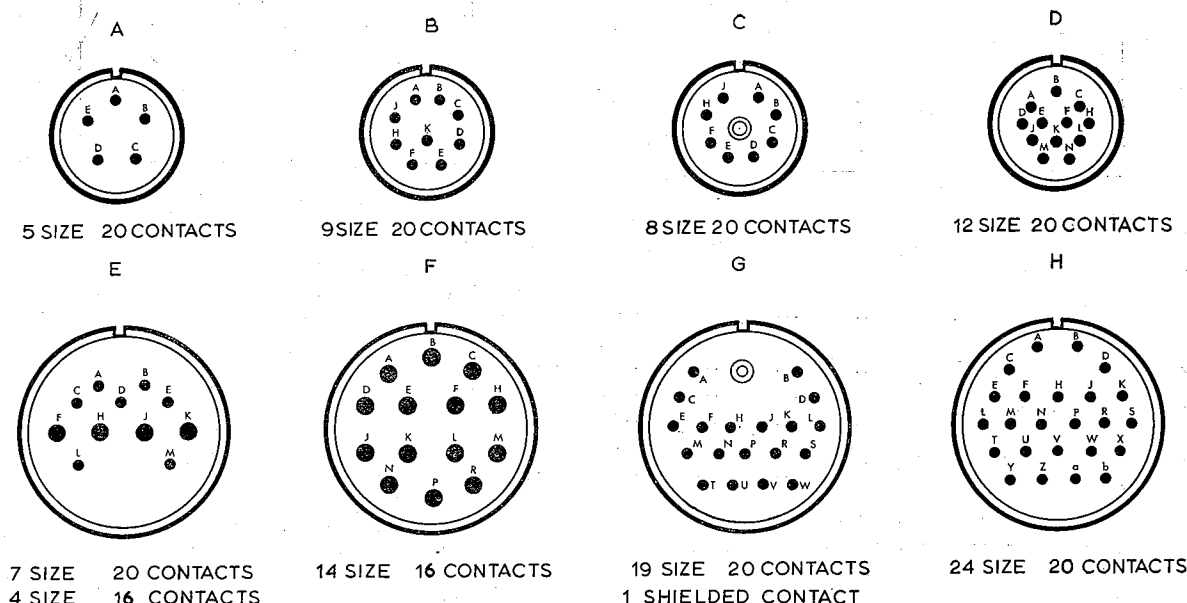

Fig. 2. Insert sizes and contact arrangements
9. The full range of contact arrangements and insert sizes is shown in Fig. 2.
11. There is no set pattern in this range of connectors to tie the part number to the shell style and contact arrangement. Table 1 in conjunction with fig. 2 will enable the part no. to be determined from the shell style and contact arrangement information.